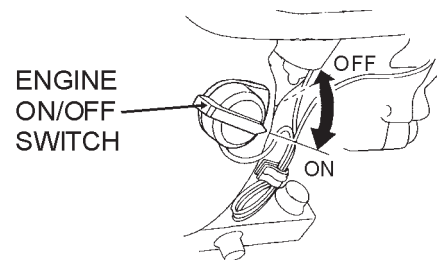

Figure 25. Engine ON/Off Switch ( engine)
3. Turn the **engine ON/OFF switch** (Figure 25) to the **"OFF"** position.